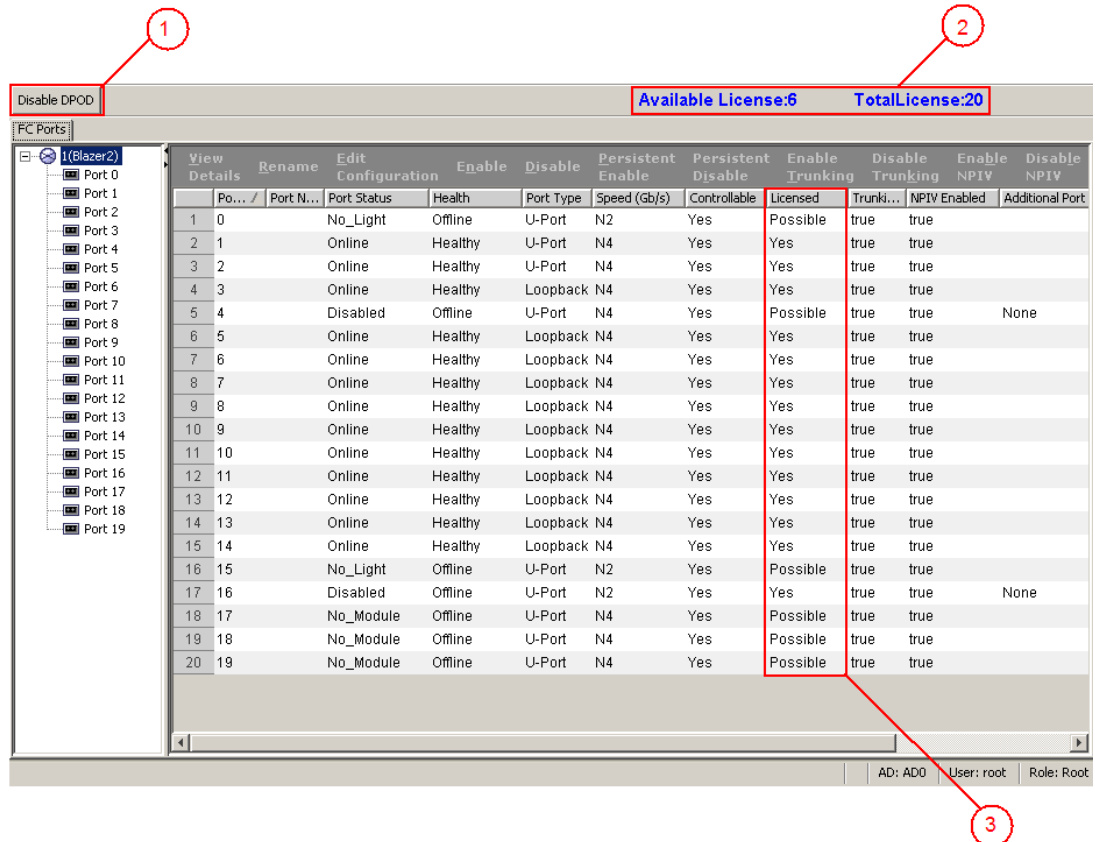

Figure 5-1 Enabling and disabling Dynamic Ports on Demand
1. Click a port in the Switch View to launch the Port Management module (see Figure 5-1 on page 5-5).
Two fields are displayed (see callout 2 in Figure 5-1) :
4. Click the **Disable DPOD** button (see callout 1 in Figure 5-1) to set the licensing mechanism to static. If the button displays Enable DPOD, the licensing mechanism is already set to static.
1. Click a port in the Switch View to launch the Port Management module (see Figure 5-1 on page 5-2).
3. Click the switch or the slot that contains the port in the tree on the left side of the window. The License column identifies the port license status (see callout 3 in Figure 5-1):